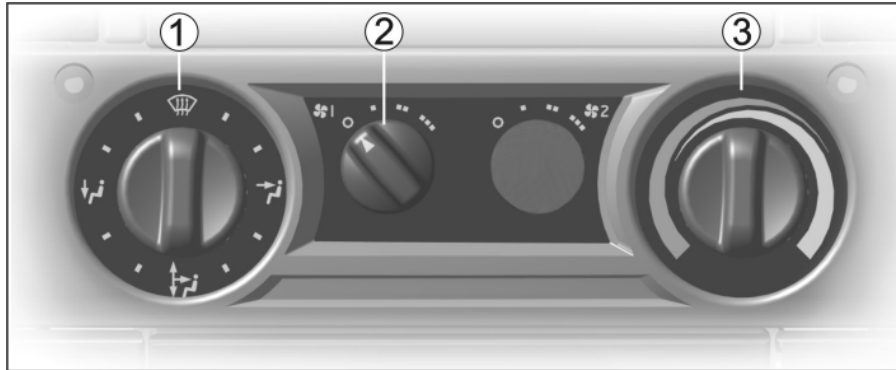

Fig. 8.2. Heating and ventilation control panel:
- turn handle 1 (Fig. 8.2) of air distribution control to position of directing air to the windscreen and door windows;
- turn handle 3 (fig. 8.2) to the extreme left position (wide part of the blue symbol);